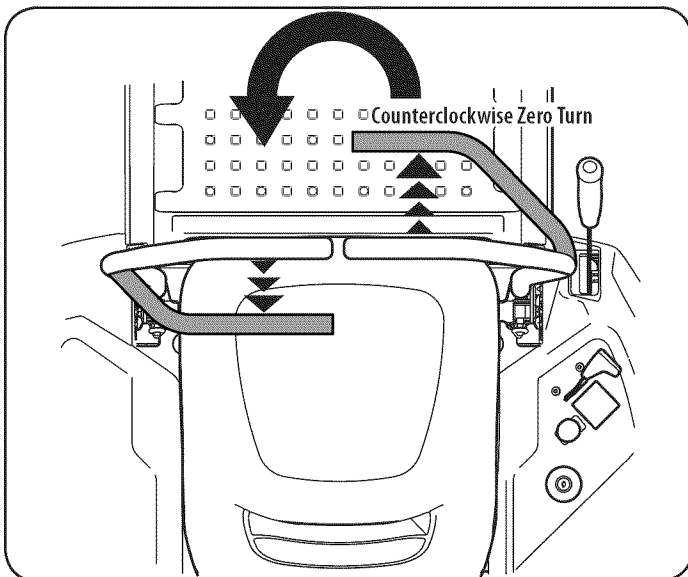

Figure 17
3. To turn counterclockwise, move the right control lever forward while simultaneously moving the left control lever rearward. See Figure 17.